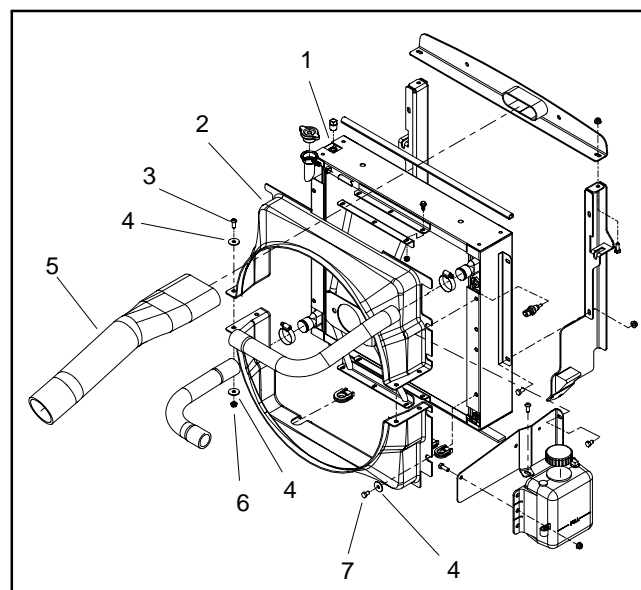

Figure 90
4. Remove air cleaner hose and upper radiator shroud to allow easier access to hydraulic fan motor (Fig. 90).
5. Remove four (4) cap screws (item 11) and washers used to secure fan to fan hub. Remove fan.
C. Remove six (6) cap screws and flange nuts that secure fan motor bracket to radiator.
7. Remove hex nut (item 9) and washer (item 8) that secure fan hub to fan motor. Use suitable puller to carefully remove fan hub from fan motor shaft. Locate and retrieve woodruff key.
8. Remove two (2) cap screws (item 20), flat washers (item 21) and lock nuts (item 14) that secure fan motor to fan motor bracket. Remove fan motor from bracket.
2. Position fan motor to fan motor bracket and secure with cap screws (item 20), flat washers (item 21) and lock nuts (item 14).
4. Position fan hub onto motor shaft and secure with washer (item 8) and hex nut (item 9). Torque nut from **27 to 33 ft-lb (37 to 44 N-m)**.
5. Carefully position fan motor and bracket assembly to radiator and secure with six (6) cap screws and flange nuts.
7. Apply Loctite #242 (or equivalent) to threads of cap screws (item 11) used to secure fan to fan hub. Position fan to fan hub and secure with four (4) cap screws and washers. Torque screws from **12 to 14 ft-lb (17 to 18 N-m)**.
8. Install upper radiator shroud and air cleaner hose (Fig. 90). Make sure that clearance between shroud and cooling fan is at least 0.180" (4.6 mm) at all points.